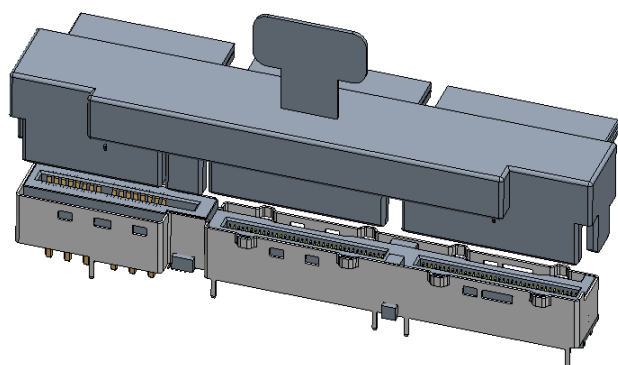
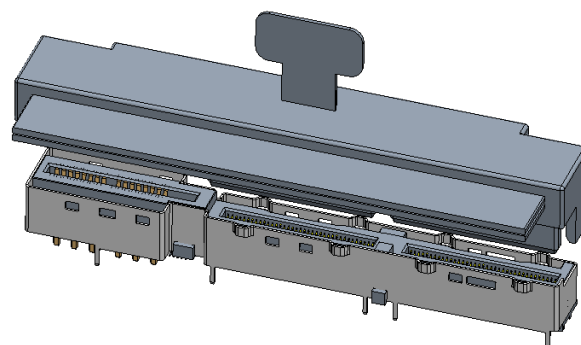
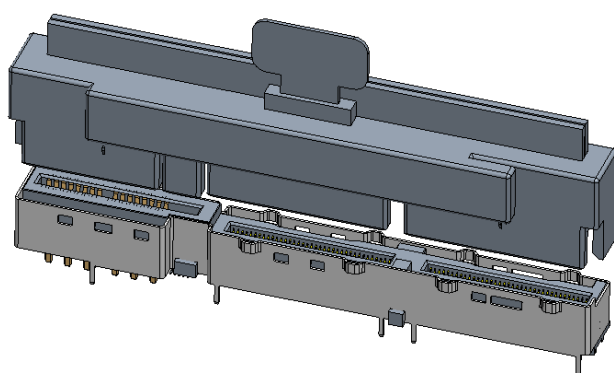
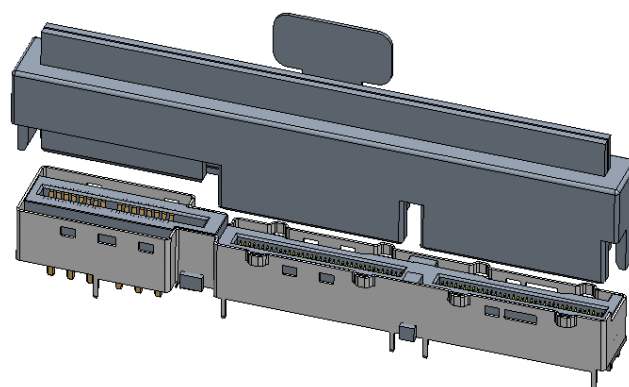

Figure 4-24 Combo x16+55A High Power Plus RA Cable Application
Figure 4-25 Combo x16+55A High Power Plus RRA Cable Application
Figure 4-26 Combo x16+55A High Power Plus STR Cable Application
Figure 4-27 Combo x16+55A High Power Plus RSTR Cable Application
2. A single combo high power cable can plug into the Vertical Combo DE x16+55A High Power Plus connector as shown in Figure 4-24, Figure 4-25, Figure 4-26, or Figure 4-27.